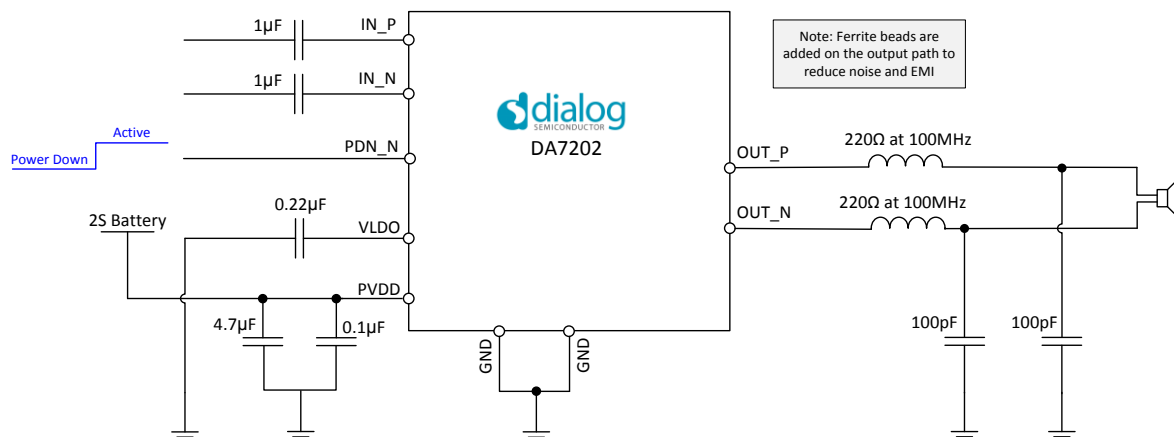

Figure 20: Layout of recommended external components and their values
**Note 3** Measurements taken using a typical layout as illustrated in Figure 20 (speaker cable length = 12 cm).